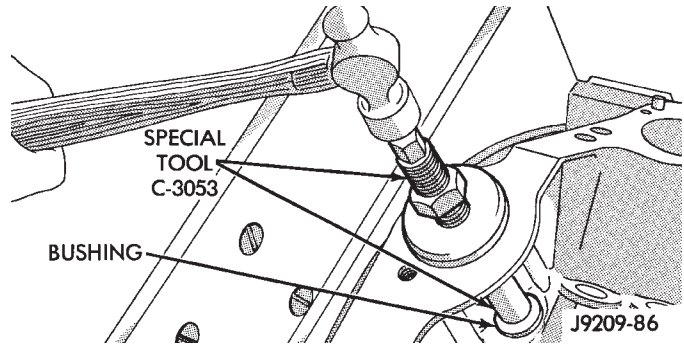

Fig. 28 Distributor Driveshaft Bushing Installation
- (1) Slide new bushing over burnishing end of Distributor Drive Shaft Bushing Driver/Burnisher Tool C-3053. Insert the tool and bushing into the bore.
- (2) Drive bushing and tool into position, using a hammer (Fig. 28).